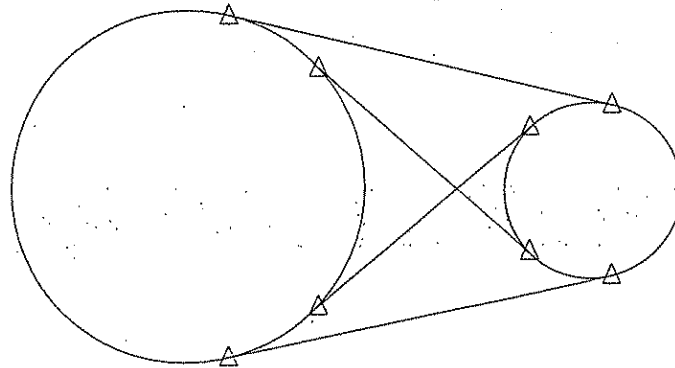

Figure B-2
**NOTE:** There are four different lines that can be described as tangent to any two arcs. An example of this is shown in Figure B-2.